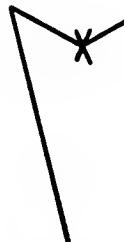

Fig. 74. An over-and-over stitch.
- C. Make another set of stitches across the first, forming a cross-stitch (Fig. 74).